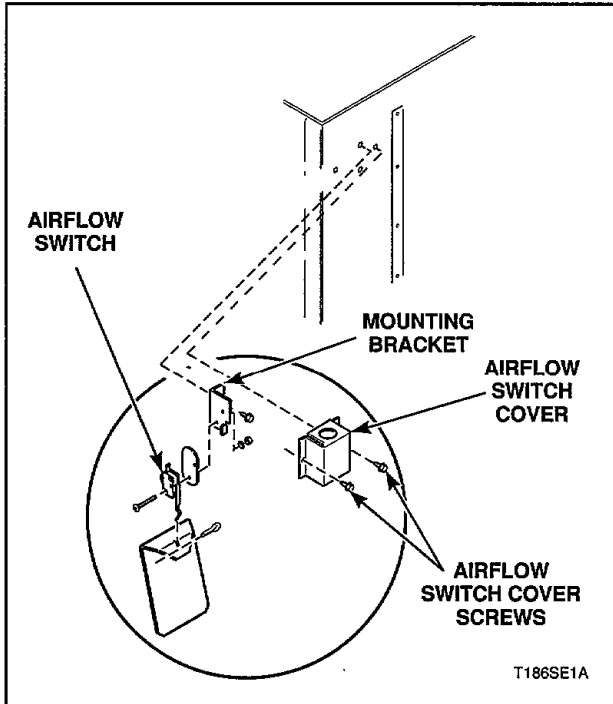

Figure 16
23. AIRFLOW SWITCH (Figure 16)